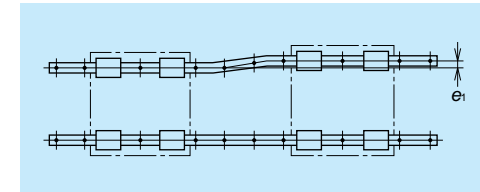

Fig. 9.5
- Fig. 9.5 and 9.6 are representing the mounting errors. Their permissible values of mounting error are shown in "Installation" of the each series.